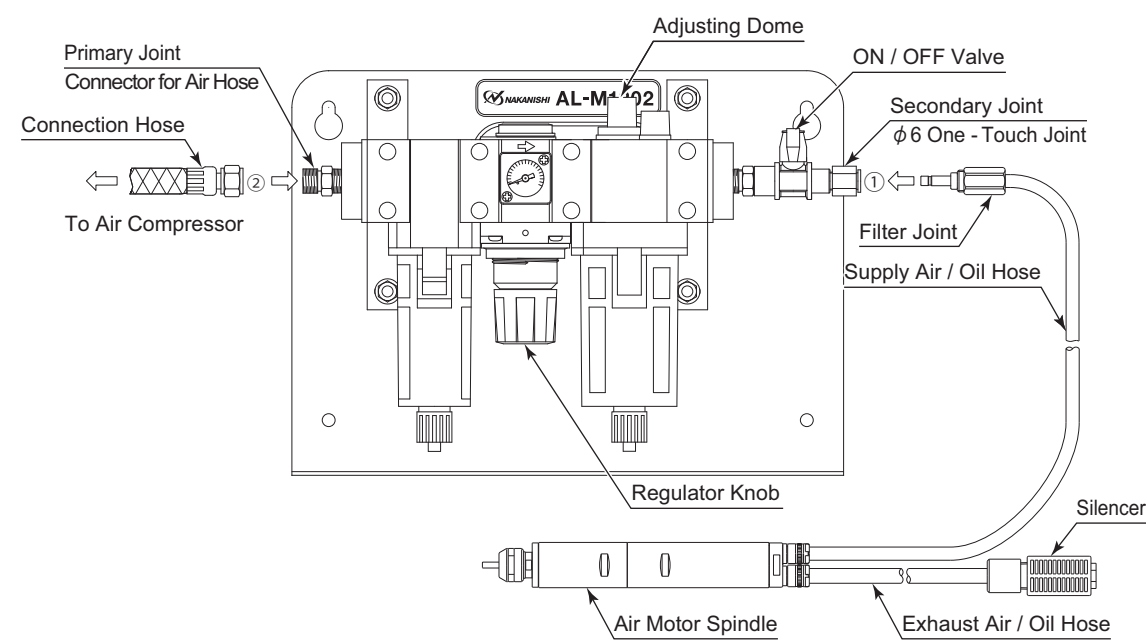

Fig. 19 Connection of Air Line Kit "AL - M1202 (Sold Separately)"
- Connect the Filter Joint of the supply air / oil hose to the Secondary Joint (φ6 One - Touch Joint) of the Air Line Kit (Fig. 19 ①).
- Connect the connection hose (Air Line Kit's Standard Accessories) to the Primary Joint of the Air Line Kit and Compressor. (Fig. 19 ②).